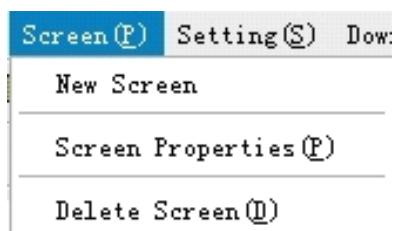

Figure 2-29: Screen menu
“Screen” menu consists of commands used for screen operation, including New Screen (N), Screen Properties (P) and Delete Screen (D). See Figure 2-29.